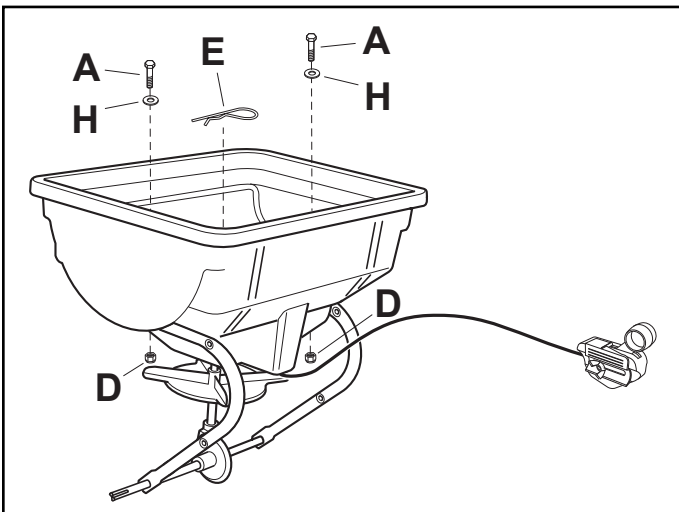

FIGURE 2
- Attach the hopper to the frame tube using two 1/4" x 1-1/2" hex bolts (A), 1/4" washers (G), and 1/4" nylock nuts (D) as shown in figure 2. **Tighten.**
- Insert an 1/8" hair cotter pin (E) into the hole at the top of the impeller. See figure 2.